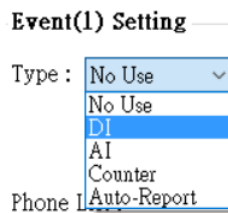
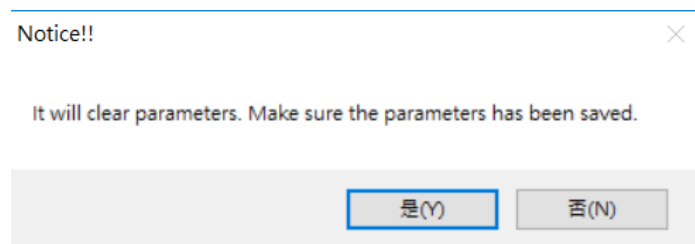

Figure 6.10.6
Figure 6.10.7
E. Select “DI” in Type as shown in Figure 6.10.6. After selecting, it will pop up the attention window and select “Yes” as shown in Figure 6.10.7